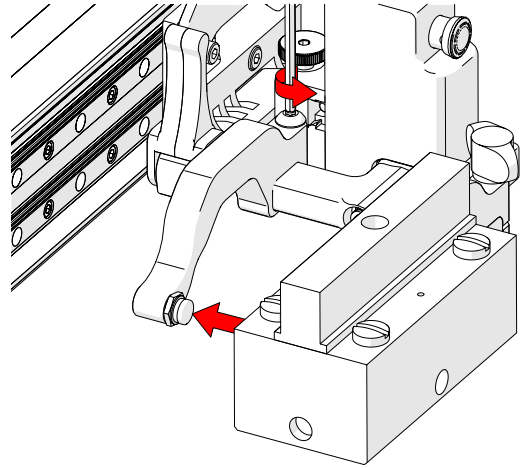

Fig. 173 - Adjust inner arm
4. Loosen the arm clamp screw (Fig. 173).
5. Place the wedge on the pivot button of the inner probe holder arm (Fig. 173).